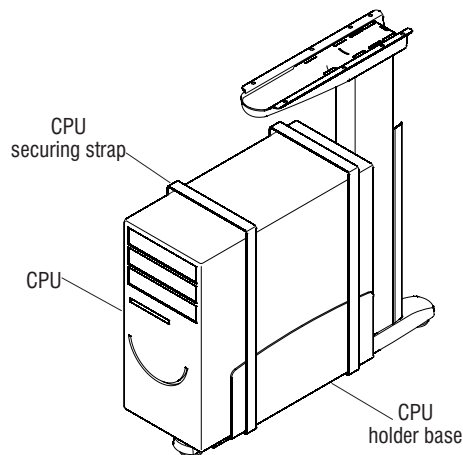

Figure 5
5. Set CPU in place and adjust CPU holder side appropriately. Tighten both $\frac{1}{4}$ " nuts. Snap CPU securing strap male and female ends together and pull strap end tight until CPU is held securely (Figure 5).